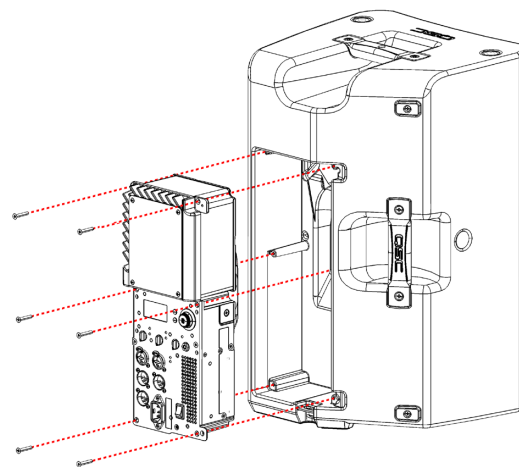

Figure 5.1.2 - Amplifier module with 6 plastite screws.
4. Remove 6 plastite screws that secure the amplifier module to the speaker cabinet. *Only remove the screws noted in Figure 5.1.2.* There are other screws on the faceplate of the amplifier module that do not need to be removed at this stage.
- Fasten 6 plastite screws that secure the amplifier module to the speaker cabinet. See Figure 5.1.2.